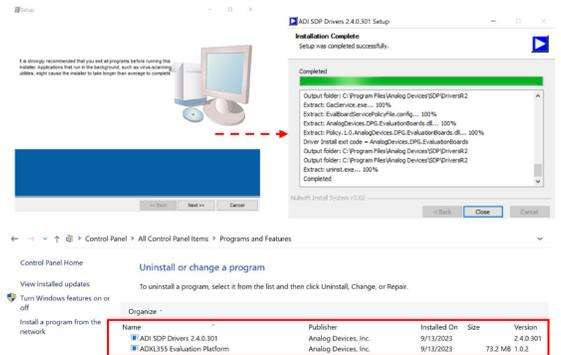

Figure 6. Installation Process
4. Simply follow the on-screen instructions, including choosing the preferred installation path and accepting the license agreement, until the evaluation platform and SDP driver installation are complete, as shown in Figure 6.